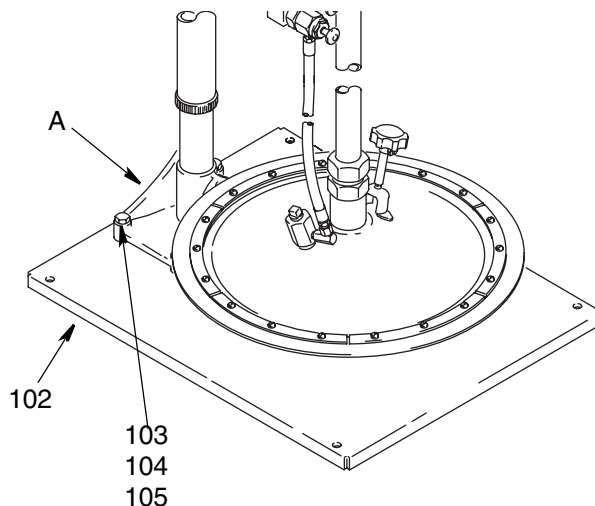

FIG. 3
1. Secure the elevator base (A) to the mounting base (102) using screws (104), lockwashers (103), and nuts (105). (Fig 3)
2. Bolt the mounting base (102) to the floor for stability.
3. Verify the elevator is level. Loosen on or two screws (104) on the elevator base and place shims under the base, if necessary.
4. Place the inductor plate (2, 18, or 22) on the mounting base (102).